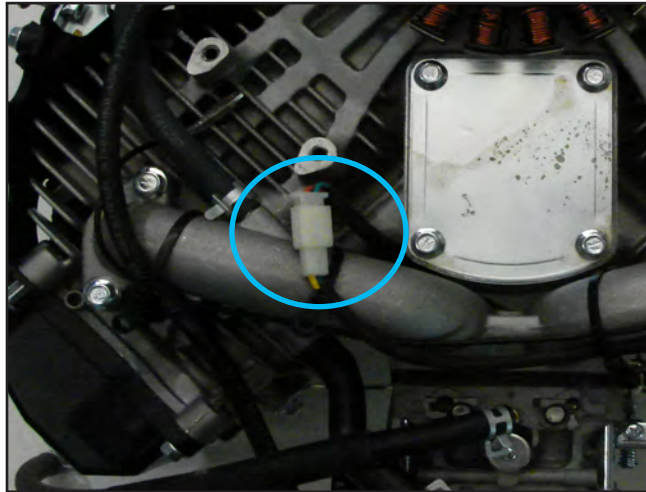

Figure 21
3. Disconnect the fuel solenoid wire at the wire harness plug located near the #1 cylinder port of the intake manifold. Carefully remove the plug from between the intake manifold and the cylinder block (Figure 21).